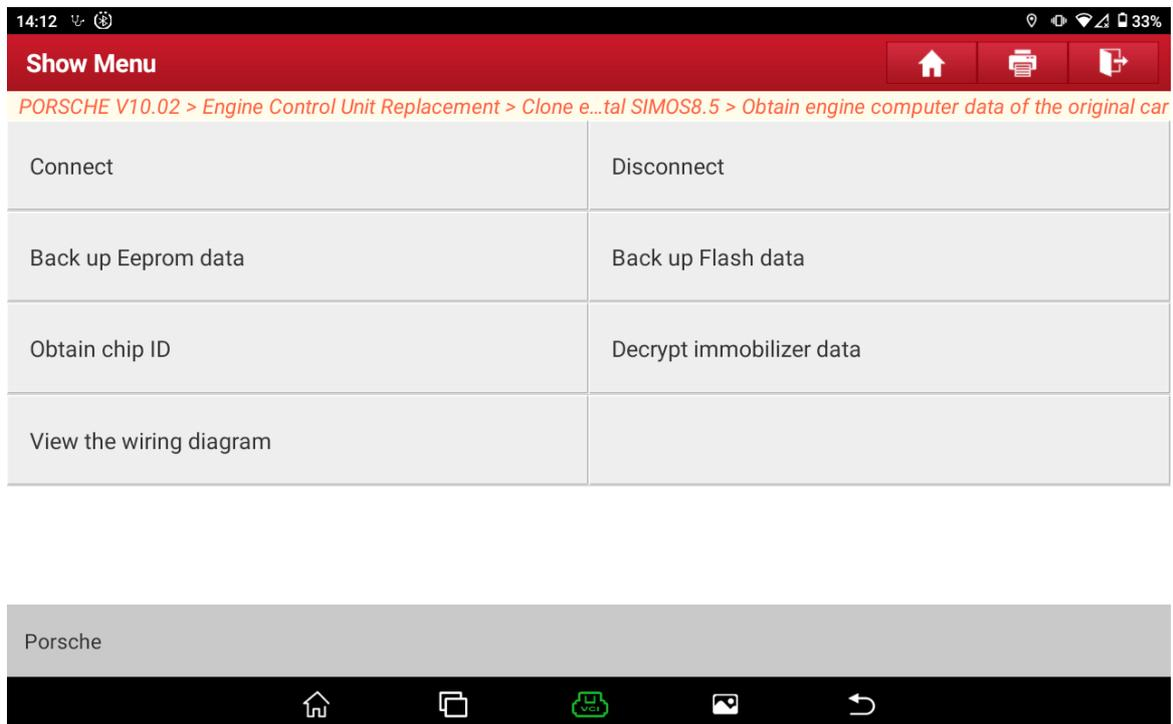

Figure 2
3. Select **【Obtain engine computer data of the original car】**, the current menu is shown in Figure 2: